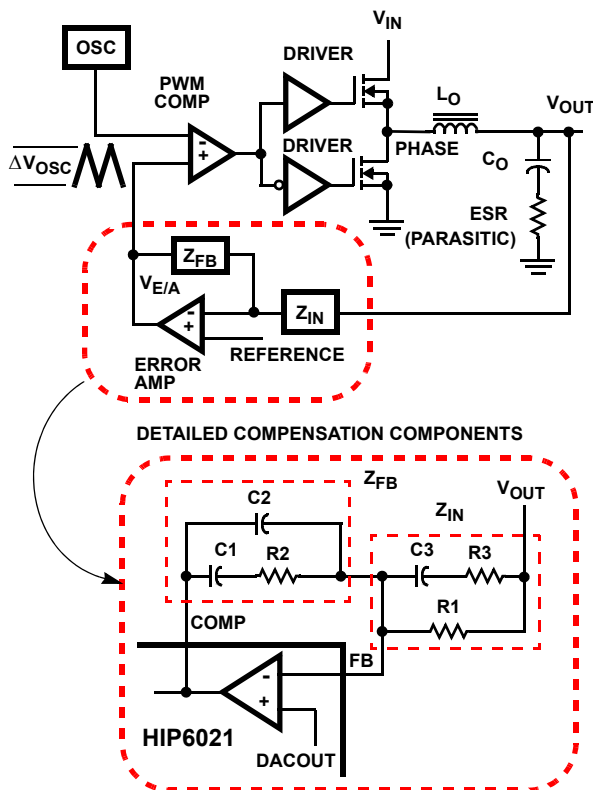
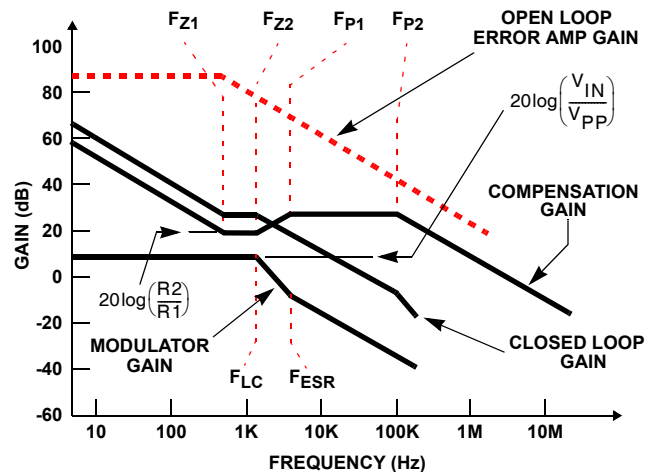

FIGURE 9. VOLTAGE-MODE BUCK CONVERTER COMPENSATION DESIGN
FIGURE 10. ASYMPTOTIC BODE PLOT OF CONVERTER GAIN
Figure 9 highlights the voltage-mode control loop for a synchronous-rectified buck converter. The output voltage (V_{OUT}) is regulated to the Reference voltage level. The reference voltage level is the DAC output voltage (V_{DACOUT}). The error amplifier (Error Amp) output ($V_{E/A}$) is compared with the oscillator (OSC) triangular wave to provide a pulse-width modulated (PWM) wave with an amplitude of V_{IN} at the PHASE node. The PWM wave is smoothed by the output filter (L_O and C_O).
Figure 10 shows an asymptotic plot of the DC-DC converter's gain vs. frequency. The actual Modulator Gain has a high gain peak dependent on the quality factor (Q) of the output filter, which is not shown in Figure 9. Using the above guidelines should yield a Compensation Gain similar to the curve plotted. The open loop error amplifier gain bounds the compensation gain. Check the compensation gain at F_{P2} with the capabilities of the error amplifier. The Closed Loop Gain is constructed on the log-log graph of Figure 10 by adding the Modulator Gain (in dB) to the Compensation Gain (in dB). This is equivalent to multiplying the modulator transfer function to the compensation transfer function and plotting the gain.